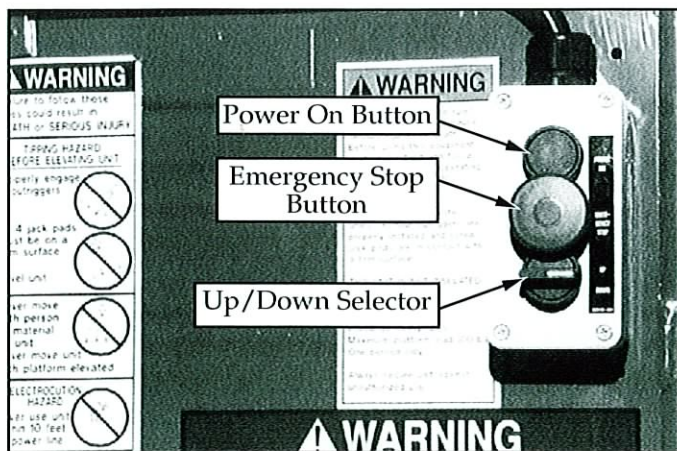

Figure 3: Platform Controls
1. Properly deploy all four (4) outriggers and level base.
2. Raise one (1) screwjack pad by turning screwjack counterclockwise until pad is clear of supporting surface.
3. While standing on the ground with no one in the platform, push the power on button in and turn the up/down selector switch to **UP** at the same time (Figure 3). **Machine should not elevate.**
4. Re-level the base with all four (4) outriggers, then repeat step 2 with another outrigger.
5. Repeat steps 2, 3 & 4 until all four (4) outriggers have been tested.
10. Pull out on the platform emergency stop switch button to turn ON (Figure 3). In the event of an emergency, push the button.
11. To elevate platform, push the power on button in and turn the up/down selector switch to **UP** at the same time (Figure 3). Release the controls to stop.
13. To lower platform, push the power on button in and turn the up/down selector switch to **DOWN** at the same time (Figure 3). Release the controls to stop.